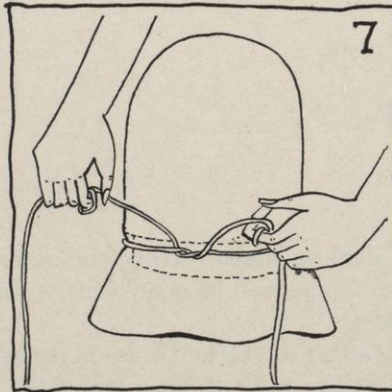

FIG. 7.
- (2) If you plan to make a two-piece hat with a brim, tie a cord around the headsize lift, and slip the cord down at least $\frac{1}{2}$ inch below the base of the crown. This forms the headsize band of the brim (see Figure 7).